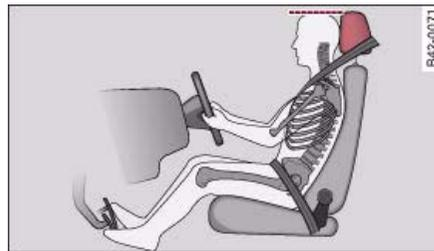

Fig. 83 Correct head restraint position for the driver
- Adjust the head restraint so that the top of the head restraint is level with the top of your head ⇒ fig. 83.